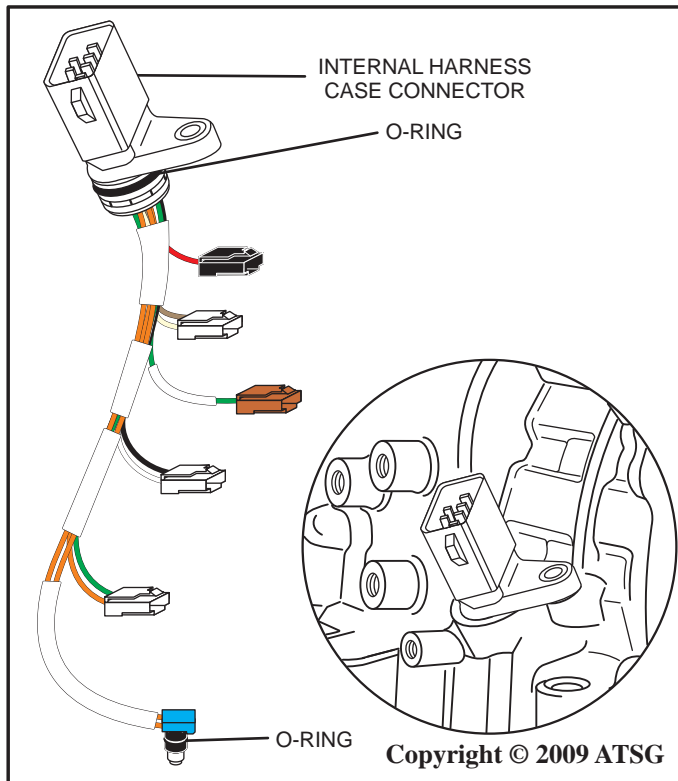

Figure 18
10. Using a twisting motion, turn and remove the internal harness case connector and internal wire harness from the transmission case as shown in Figure 18. Be careful not to damage the wires in the harness.